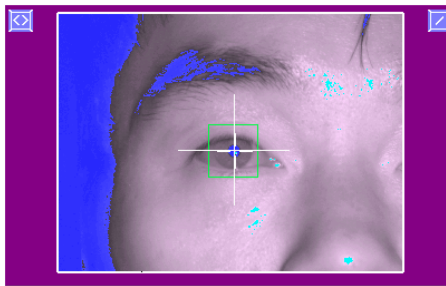

Figure 3-16: Adjusting the Orientation of the Camera Image
- 2) For monocular eye tracking, make sure the eye to be tracked appears in the center of the global view as in Figure 3-16 (the untracked eye may appear near the edge or outside of the camera view, depending on the lens used).